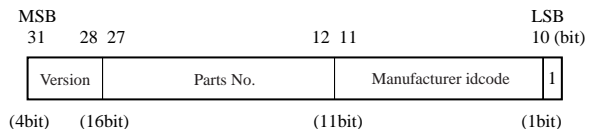

Fig 8 IDCODE register
- 5)IDCODE register consists as shown in figure 8.